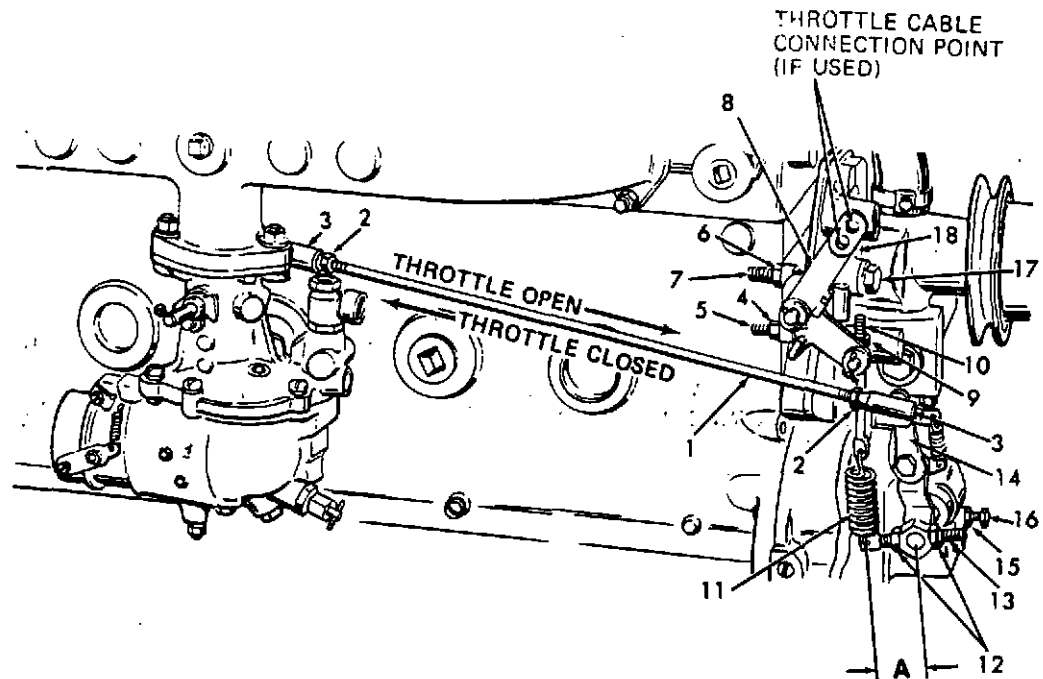

Figure 3-6. Governor Adjustment Points
Only one basic model mechanical governor is used with these White gasoline engines, but this model provides many variations in governing characteristics. The governor can be used either as the constant speed type, which is adjusted only through adjusting screws on the linkage, or as the variable speed type, in which the governed speed can be adjusted by a throttle control on the engine control panel. The governor is connected to the carburetor as shown in figure 3-6 for most variable speed applications. For constant speed use, the governor rod (1, figure 3-6) may be connected to a valve box mounted between the carburetor and intake manifold, instead of to the carburetor throttle shaft as shown. Some constant speed installations are not equipped with a bellcrank (8) and adjusting screws (5 and 7).
The adjustment points illustrated in figure 3-6 apply to all installations of Hoof Model GD505 governors used on White gasoline engines. The illustration shows a typical updraft carburetor installation. The configuration of some parts will change for use with a downdraft carburetor.
1. With the engine stopped and the throttle closed, check for  $1/32$  to  $1/16$  inch clearance between the lever on the carburetor or valve box and any throttle stop or speed adjustment screw. If this clearance is incorrect, loosen lock nuts (2, figure 3-6) and screw the rod (1) into or out of ball joints (3) to obtain this clearance. Tighten the lock nuts.
2. Stop the engine. Loosen lock nuts (4 and 6, figure 3-6) and back out adjusting screws (5 and 7) several turns.
3. Speed adjustment is performed by moving speed eyebolt (10, figure 3-6) up or down to change the tension on spring (11). Rotate nut (9) clockwise to increase speed or counterclockwise to decrease speed.
2. The effective length (A, figure 3-6) of sensitivity eyebolt (13) controls the governor's sensitivity to changes in speed. If the effective length is too short, the governor will cause the engine to surge; if it is too long, there will be an excessive difference between full-load and no-load engine speed.
3. With the engine running at full governed speed, loosen nuts (12). Loosen one nut while tightening the other to move sensitivity eyebolt (13) in or out of the governor arm (14) to increase or decrease effective length A of the eyebolt. Shorten the effective length until the engine begins to surge, then lengthen it until surging stops. Tighten nuts (12) to secure the adjustment.
4. Some governors are also provided with a surge screw (16) to dampen surging. If a surge screw is provided, shorten the effective length A of sensitivity eyebolt (13) just until surging begins. Loosen lock nut (15) and screw in surge screw (16) to dampen surging, then tighten lock nut (15) and nuts (12).
5. With a variable speed installation, return the throttle control to the closed position and check that the governor will allow the engine speed to return to idle. If it does not, back out surge screw (16) and repeat the adjustment in step 3.